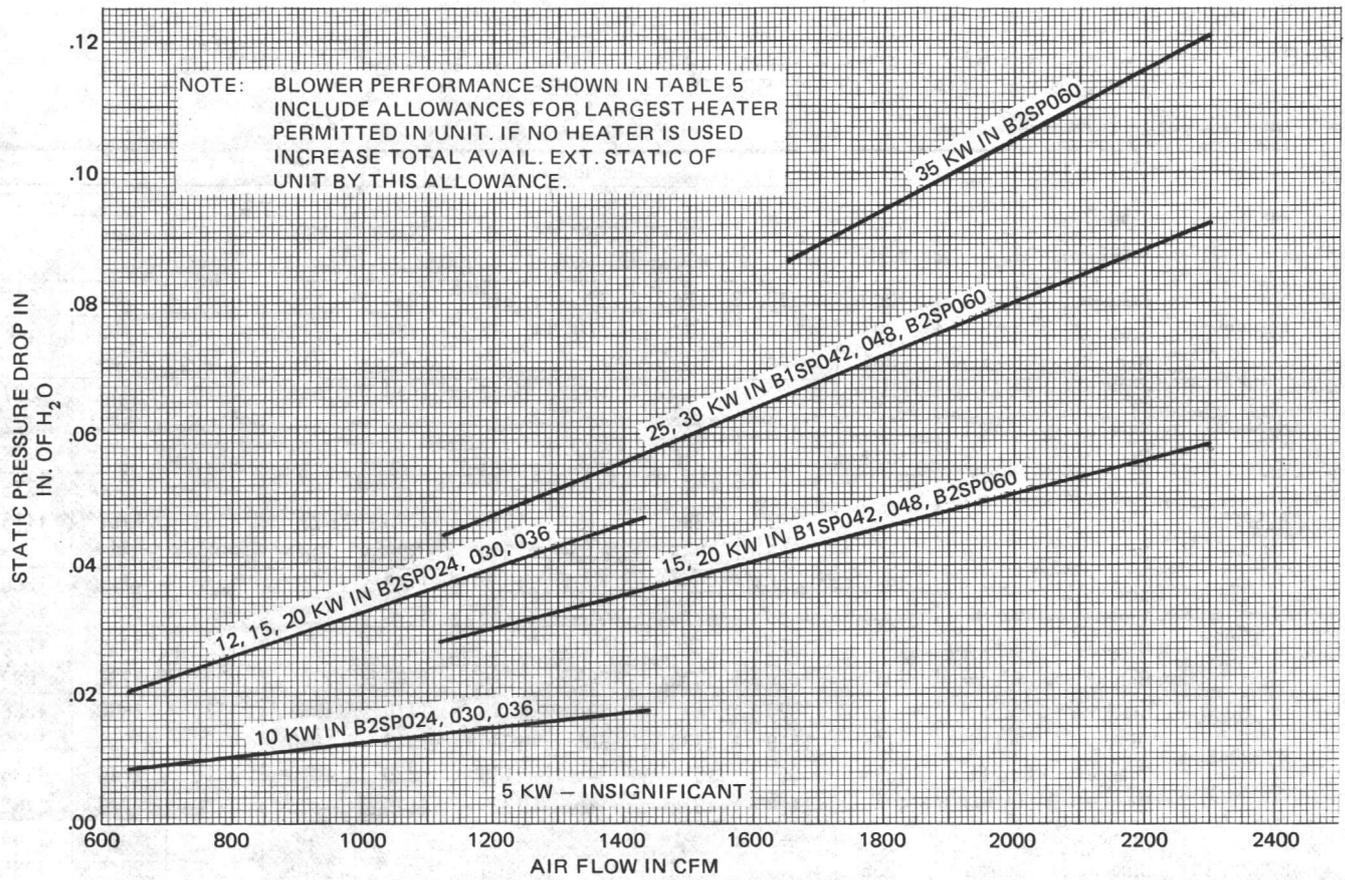

FIG. 7 — ELECTRIC HEATER — STATIC PRESSURE DROP
If installation of an Electric Heat Accessory is anticipated, be sure a minimum clearance of one inch is allowed on all sides of the supply air duct and plenum. This clearance must be maintained up to 3 feet along the supply air duct. See Fig. 1. Pressure drop for Electric Heater is shown in Fig. 7.
- NOTES: 1. If no heater or less than the maximum size heater is used, add the static pressure difference shown in Fig. 7 to available static pressure above.